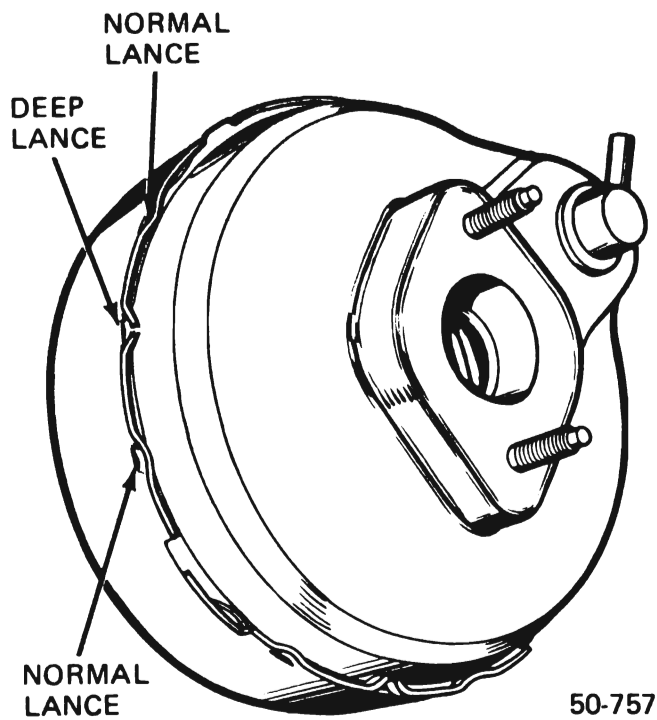

Figure 50-132 Lances in Front Shell
10. The edge of the front shell contains twelve (12) lances. Four (4) of these lances (one in each quadrant) are deeper than the other lances. The metal that forms the four (4) deep lances must be partially straightened so that the lances will clear the cutouts in the front shell. If the metal tabs that form the deep lances break during straightening, the shell must be replaced. See Figure 50-132.